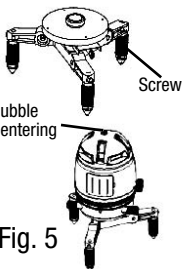

Fig. 5
6. Adjust the screws on the three legs of the base to center the top bubble, which will achieve the higher accuracy (Fig. 5).